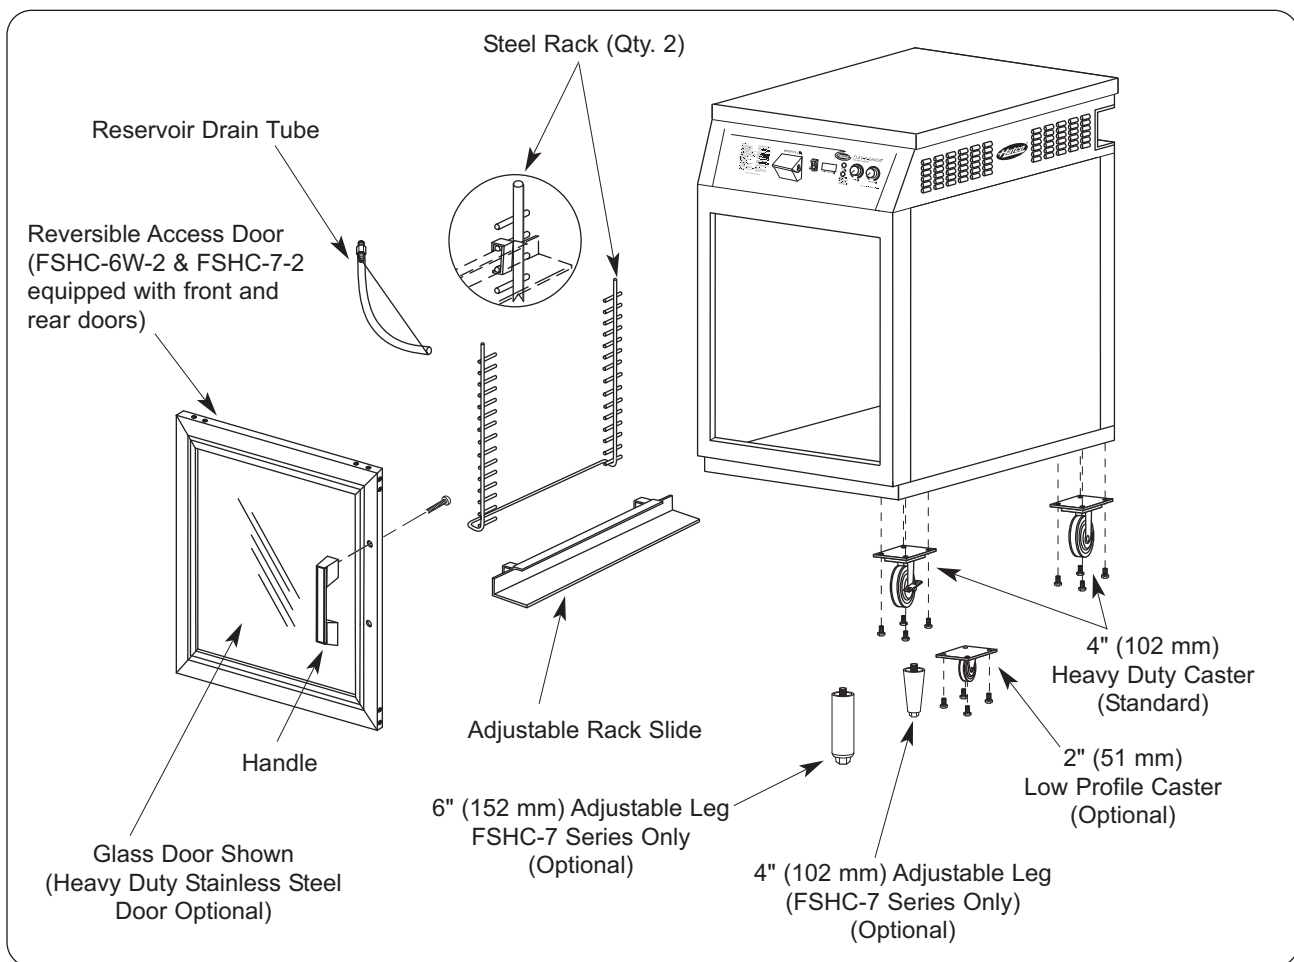

Figure 4. FSHC -6W & -7 Series
4. Install the handle(s) to the access door(s). (See Figure 4.)
5. Carefully lay the unit on its side. Thread one leg or mount caster using hardware provided onto the cabinet bottom and tighten securely. (See Figure 4.) Return cabinet to the upright position.
6. Unpack the adjustable steel rack slides from the carton, and install them to the rack as shown in Figure 4. Make sure the bottom shoe of each rack faces outward.